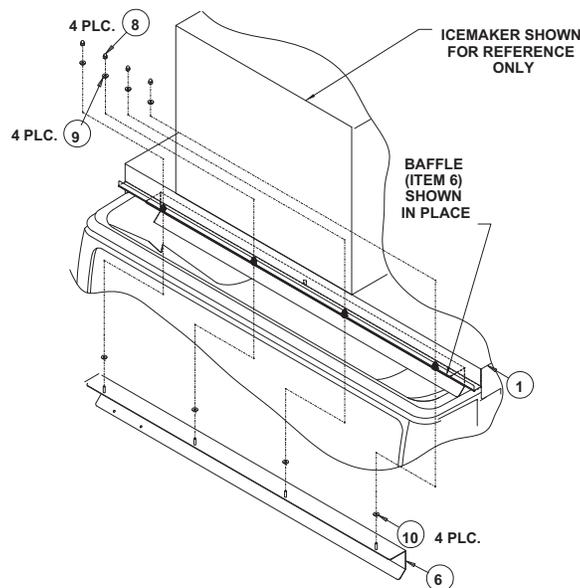

Figure 2. ED300 Baffle Kit
1. Remove the two (2) screws from each side of the dispenser cabinet and the plastic hopper covers (2) that were shipped with the unit.
2. Place the Adapter lid on the unit and use the four (4) screws that were removed to fasten the lid in place.
3. Install the ice baffle on the lid assembly as shown in Figure 2.